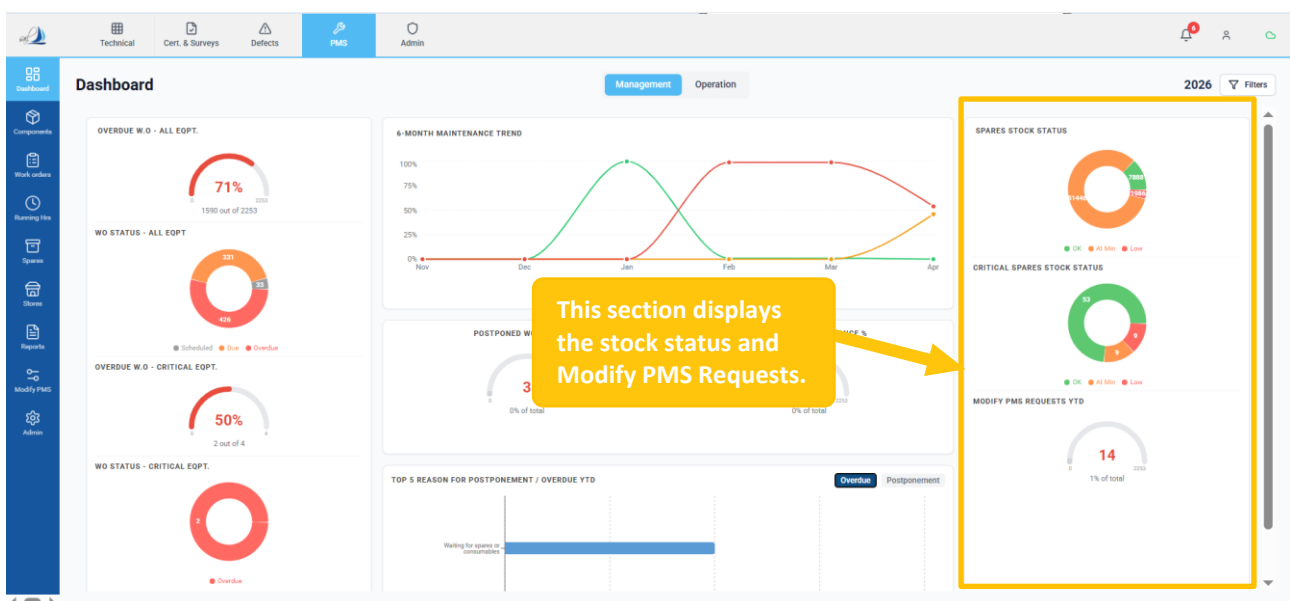

Figure 6
- This section provides a visual overview of inventory health and PMS change requests using chart indicators. (Ref Figure 6)